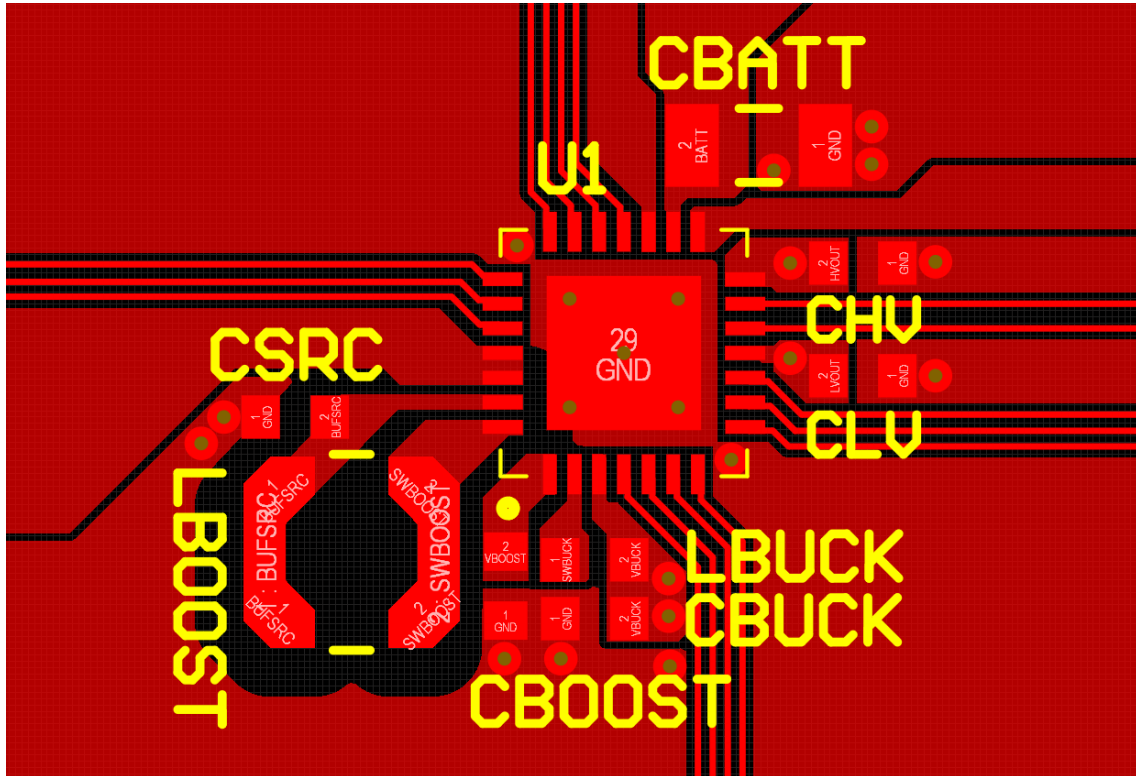

Figure 25: Layout example for the AEM10941 and its passive components
- The switching nodes (**BUFSRC**, **SWBOOST**, **SWBUCK** and **BUCK**) must be kept as short as possible, with minimal track resistance and minimal track capacitance. Low resistance is obtained by keeping track length as short as possible and track width as large as possible between these switching nodes and the AEM10941 pins. Minimal capacitance is obtained by maintaining a large distance between the switching nodes and other signals. We recommend removing the ground plane, the power plane and the bottom layer ground pour under **L_{BOOST}** and **L_{BUCK}** footprints, as well as adding distance between **BUFSRC/SWBOOST** and the top ground pour, as shown in Figure 25.
- The **GND** return path between the decoupling capacitors and the AEM10941 thermal pad, which is the AEM10941 main **GND** connection, must be as direct and short as possible. This is preferably done on the top layer when possible, otherwise by internal/bottom plane, using low resistance vias to decrease layer-to-layer connection resistance. In Figure 25, this **GND** return path is done on an internal plane.